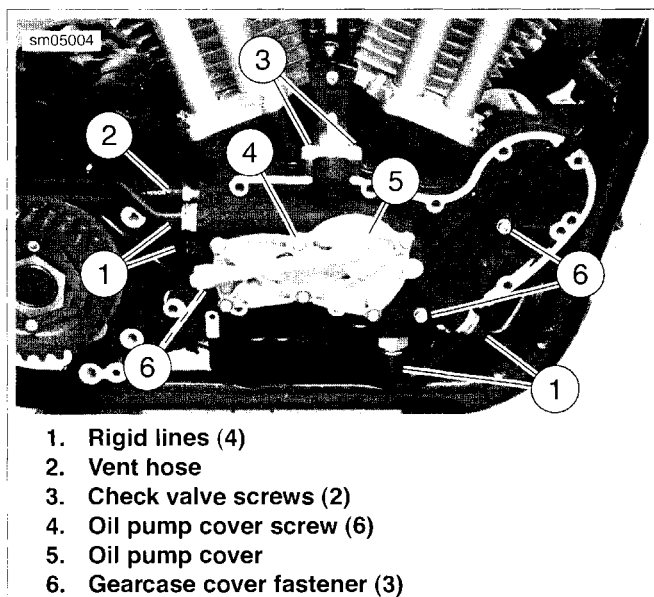

Figure 3-101. Gearcase Cover and Oil Pump: XR Models
11. Figure 3-101. Install gearcase cover with **new** gasket and secure with three fasteners (6). Tighten fasteners to 80-110 in-lbs (9.0-12.4 Nm).